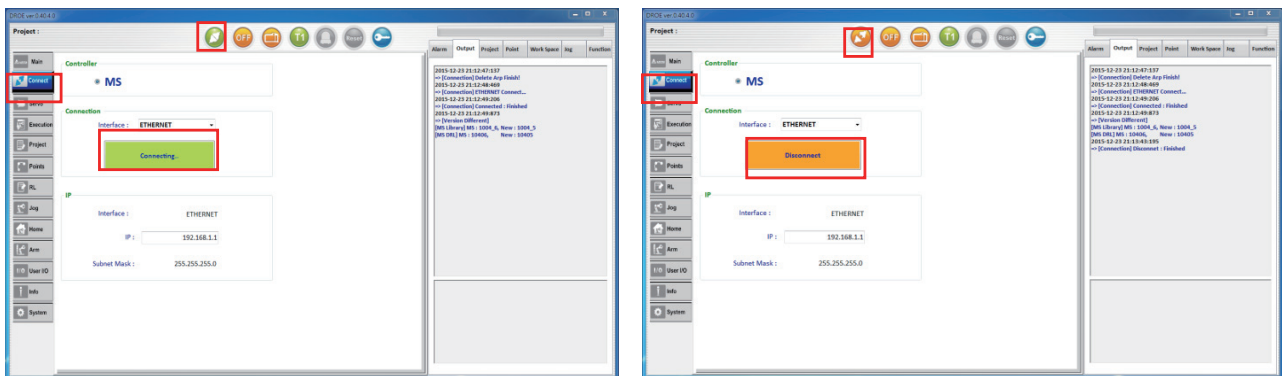

Fig.4 Connection setting
**2. Connection:** Click on “Disconnect” button to perform connection, as shown in Fig.4.